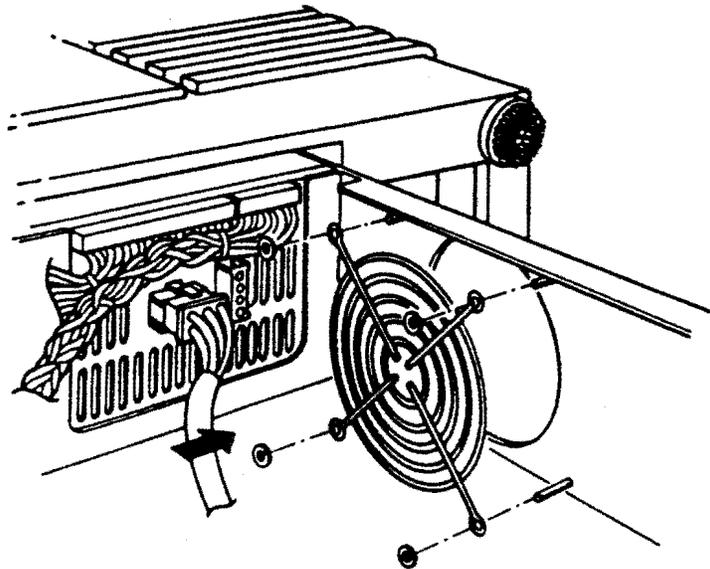

Figure 6-29: Front Fan Installation
3. Place the guard over the screws, with the circular wires of the guard against the chassis (Figure 6-29).